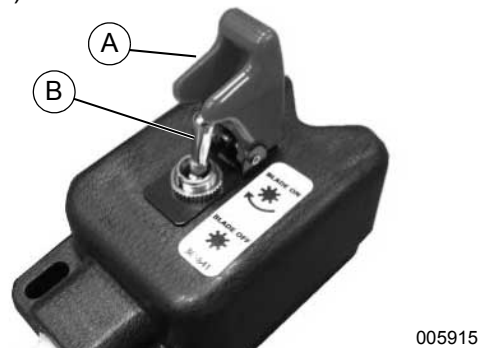

Figure 3-5. Blade Control Switch
1. See Figure 3-5. Engage blades by opening blade control safety cover (A) and pushing blade control switch (B) forward.
See Figure 3-5. Close blade control safety cover.